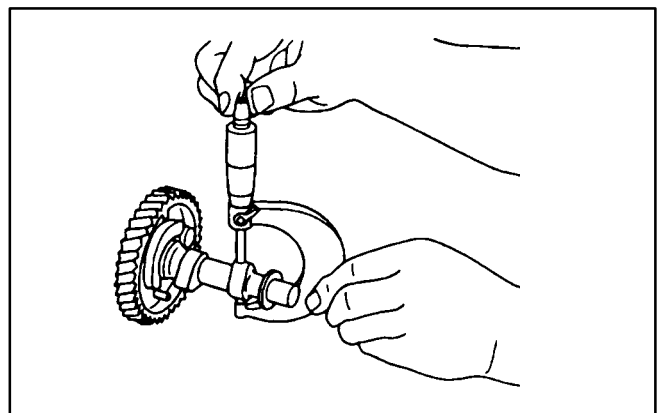

FIGURE 9-32. INTAKE AND EXHAUST CAM HEIGHTS
1. Measure the height of the cam at its highest point with an outside micrometer (Figure 9-32).